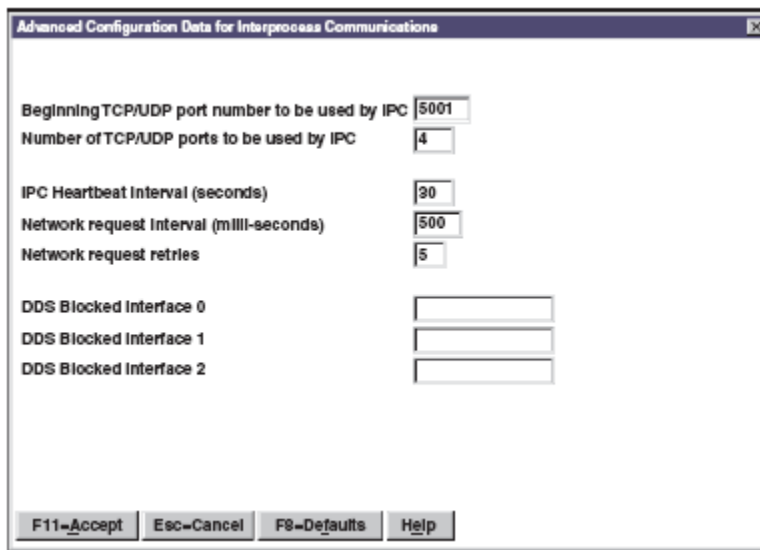

Figure 9. Advanced Configuration Data for Interprocess Communications Window
6. Select **Accept**. The Advanced Configuration Data for IPC window is displayed, as illustrated in **Figure 9**.